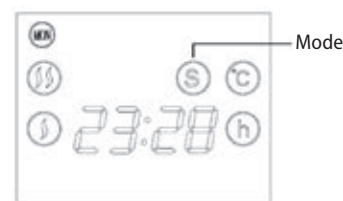

Fig. 2
2. Drill holes into the wall on both sides and then insert plastic wall plugs into the holes. Fasten the bracket in the wall with a screw, see Figure 2.
Press (SET) to change to operating mode. Fig. 2 illustrates what the display will be showing; the display will be showing (S).